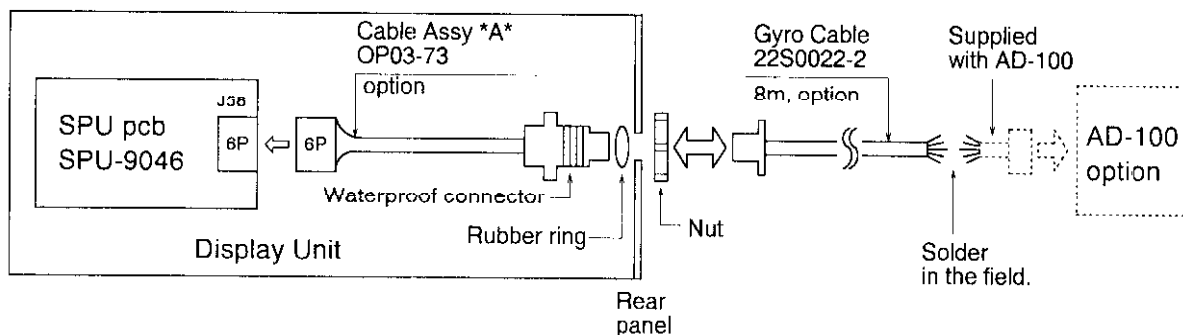

Figure 6-11 Gyro Connection
3. Fix the waterproof connector on the rear panel with the rubber ring and nut as shown in Figure 6-11.